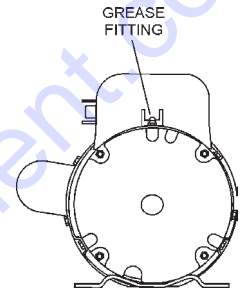

Figure 35. Grease Fittings Electric Motor
1. There are two grease (Figure 35) fittings at each end of the electric motor that will require lubrication. Lubricate these fittings about **every 16 months**.